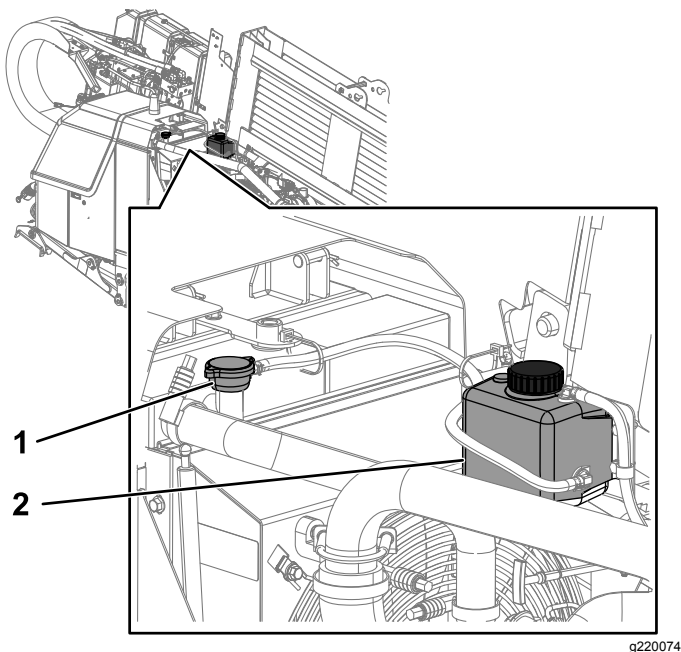

Figure 105
4. Remove the radiator cap from the filler neck of the radiator and check the coolant level (Figure 104 and Figure 105).
5. If the coolant level is low, add coolant until the level is up to the bottom of the filler neck (Figure 105).
6. Install the radiator filler cap, ensuring that it is tightly sealed (Figure 105).
4. Remove the radiator cap (Figure 105).
2. Remove the radiator cap (Figure 105).
4. Install the radiator cap (Figure 105).